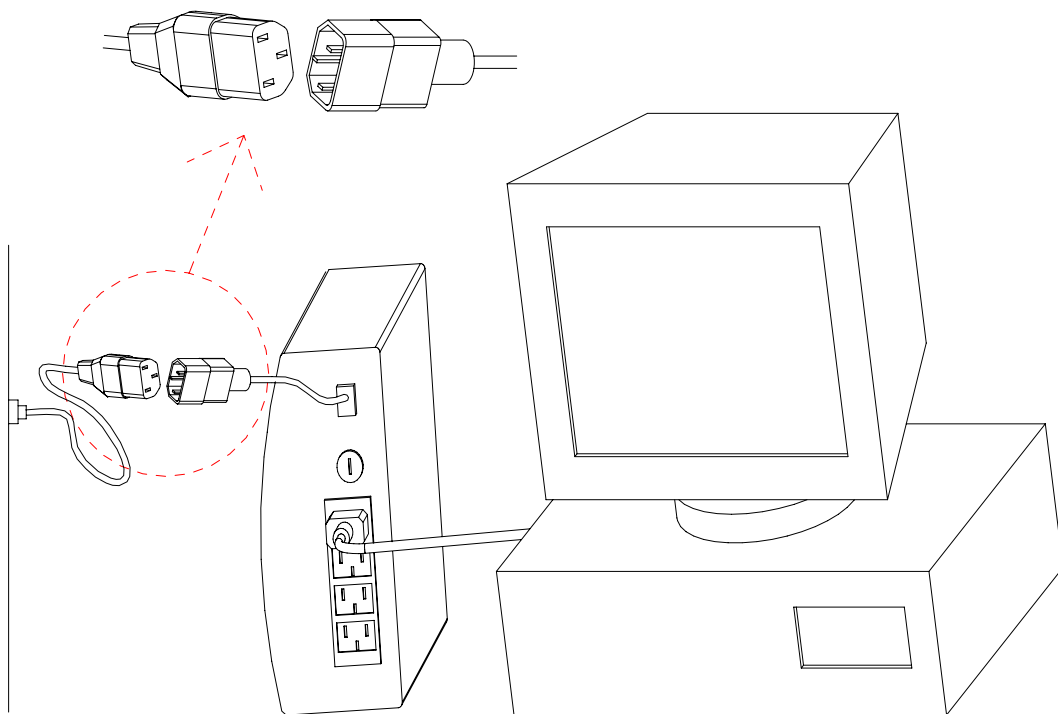

Figure 1: Connection of the UPS
- 2) Plug the UPS into a wall outlet (see figure 1), and press the  on the front panel, then the UPS come into work. When the UPS starts, it will beep and both LEDs of the front panel will light up for 2 seconds. The green light should light up continuously. This indicates normal operation.